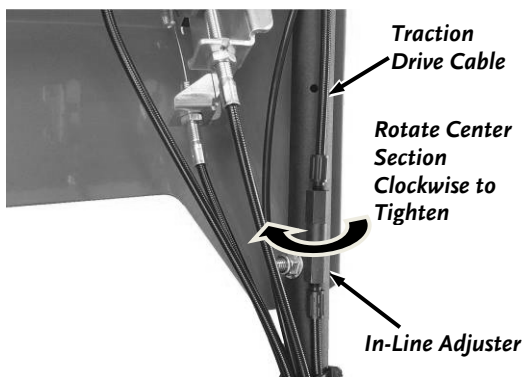

Figure 25
1. Locate the Traction Drive Cable along the right Handlebar (**Figure 25**). There is an In-Line Adjuster to change the length of the Cable.